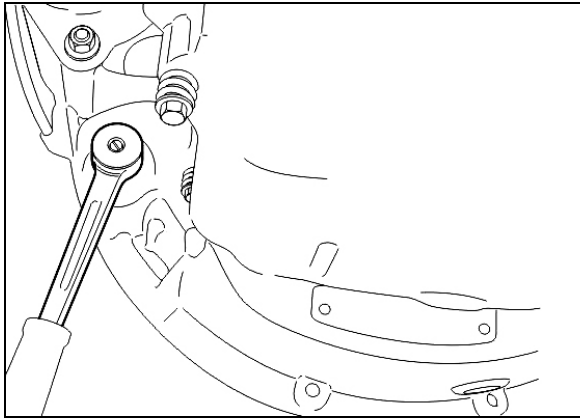

FIGURE 16: VOLVO ENGINE CRANKING POSITION
*Remove starter motor located on engine L.H. side. Removing the starter motor will allow access to unfasten the 12 converter-to-flexible plate attaching screws. Remove the plug located below starter motor and install cranking tool (88800014). Cranking the engine to gain access to the attaching screws may be done by turning the cranking tool using a suitable adapter (Figure 16).*